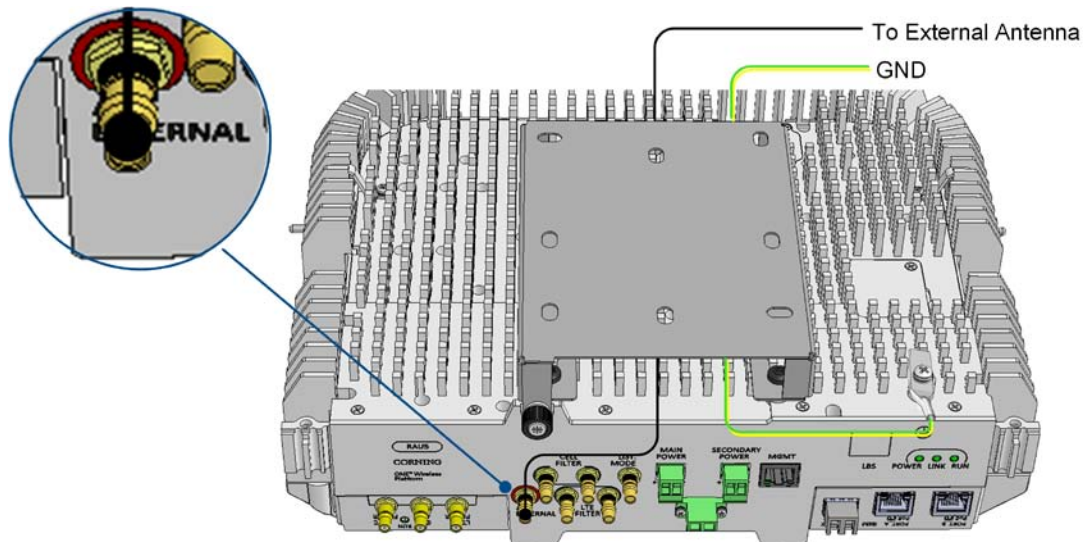

Figure 4-25. RAU5/RAU5x External Antenna Connection
1. For RAU5x models not including Corning external antenna – connect the RAU5x QMA “Ext. Ant.” connector to the external antenna, as illustrated in Figure 4-25. Note that for RAU5x units installed with RxU2325, the external antenna is connected to the RxU2325 “ANT.” port.